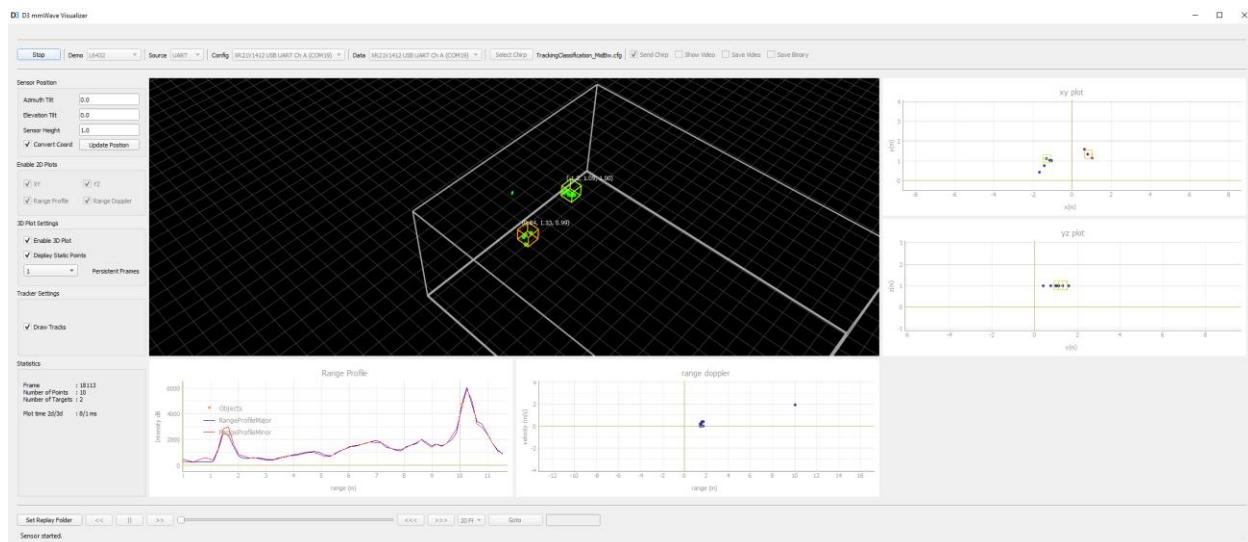

Figure 2. D3 Visualizer Data Display
8. Observe the output and observe the dynamic returns displayed as shown in Figure 2.